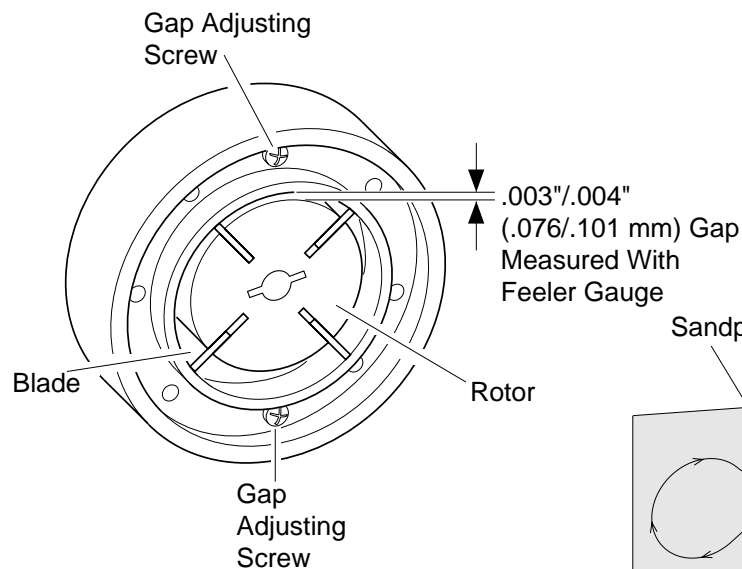

Figure 21 - Gap Adjusting Screw Locations
9. Check gap on rotor. Adjust to .003"/.004" (.076/.101 mm) if needed (see Figure 21).